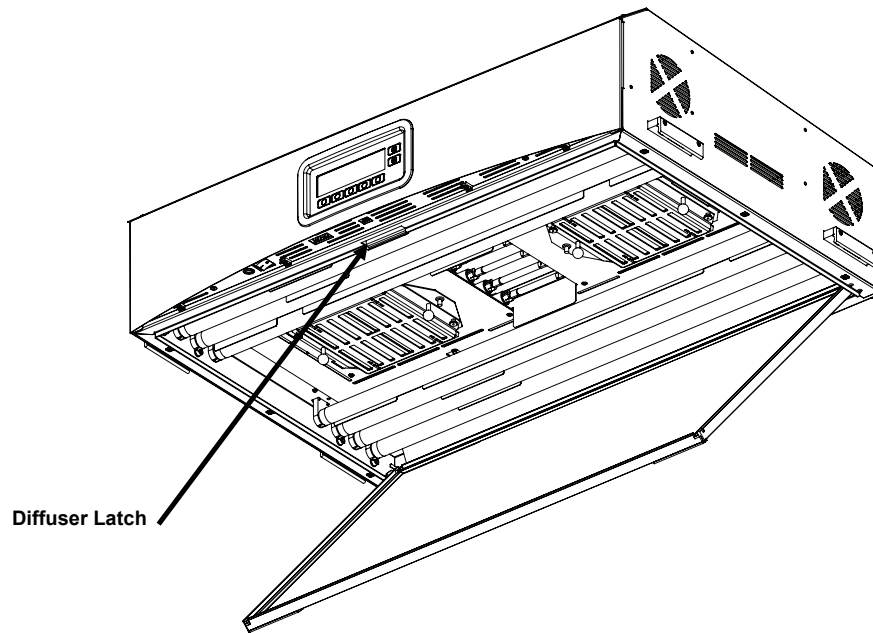

Figure 10. Luminaire Showing Diffuser Mounting
7. Rotate the front of the diffuser to its closed position and secure it in place with the latch. Refer to Figure 10.